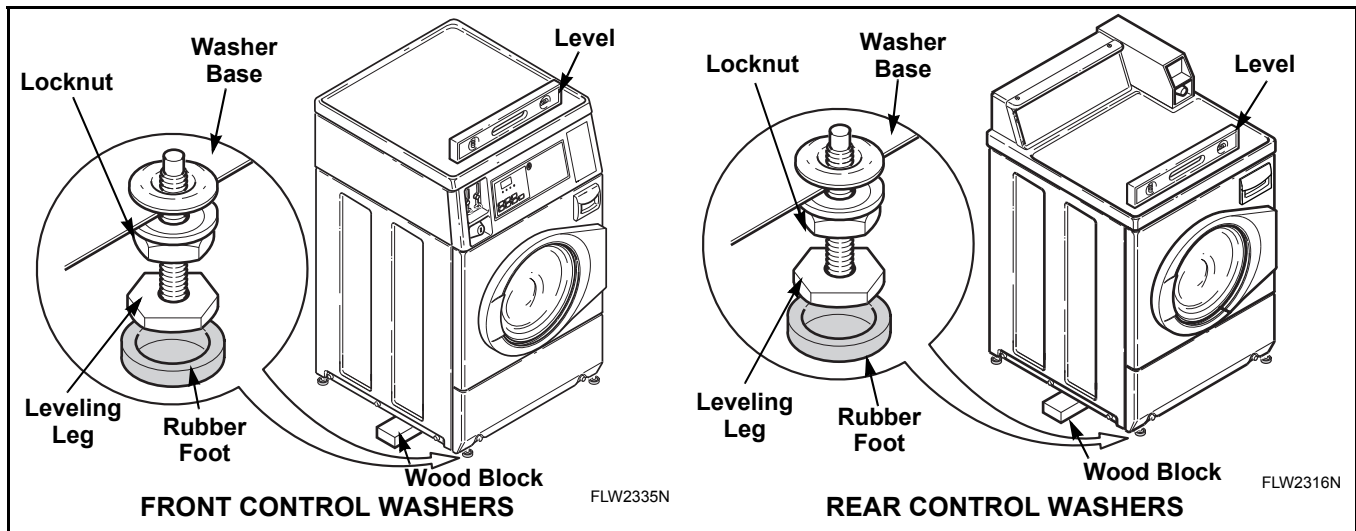

Figure 13
- Place level on washer, refer to *Figure 13*, and check if washer is level from side to side and front to back.
**NOTE:** Level must rest on raised portion of top panel. Refer to *Figure 13*.
- If washer is not level, tilt washer to access front and rear leveling legs. For easier access to leveling legs, prop up washer with wooden block. Refer to *Figure 13*.
- Loosen locknuts and adjust the leveling legs until the washer is level from side to side and front to back (using a level). **Make sure washer does not rock.** Refer to *Figure 13*.
- Place rubber feet on all four leveling legs. Refer to *Figure 13*.